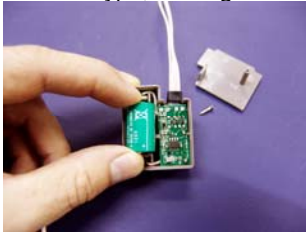

Fig 12
2. Separate the top from the base of the control box. Remove the 1/2 AA Lithium battery and replace with a new battery of identical type, making sure that battery polarity is correct (fig 12).